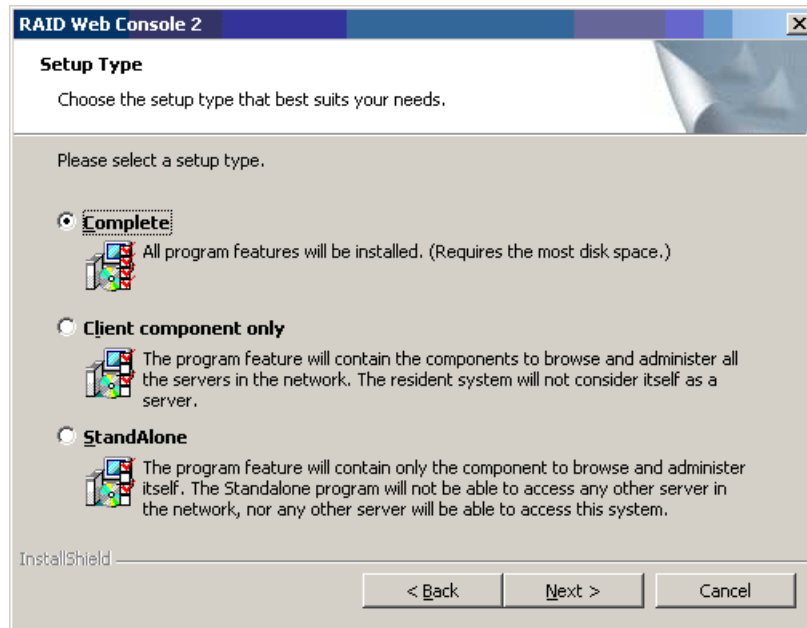

Figure 32. Setup Type Screen
6. Accept the default Destination Folder, or click **Change** to select a different destination folder. Click **Next** to continue. The Setup Type screen is displayed, as shown in Figure 32.